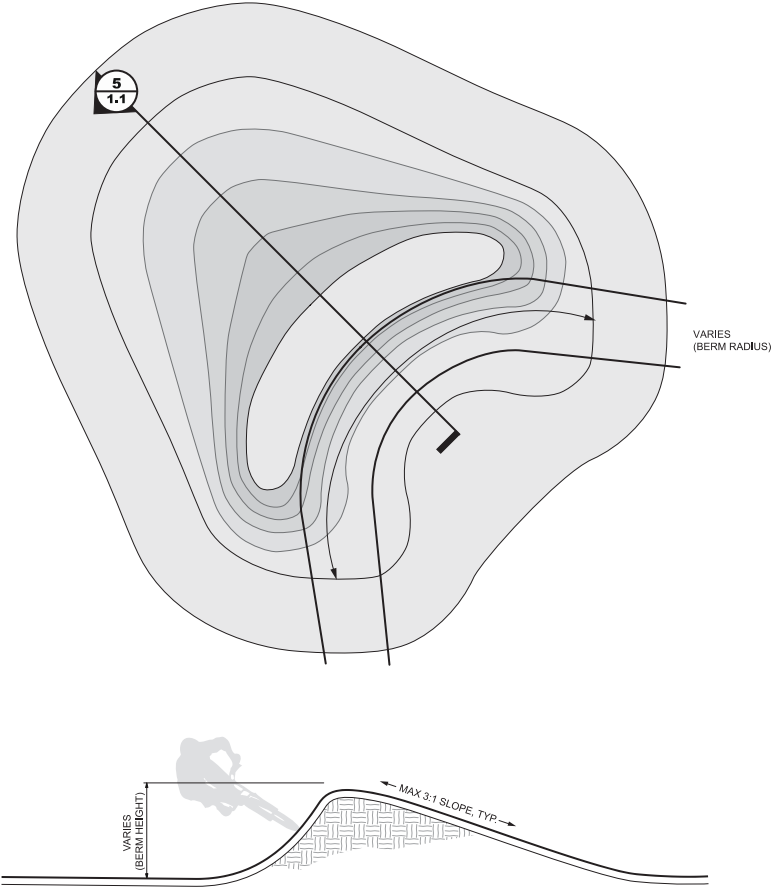

Figure 10: Berm
4.10 Insloped Bermed Turn (Berm) (figure 10)